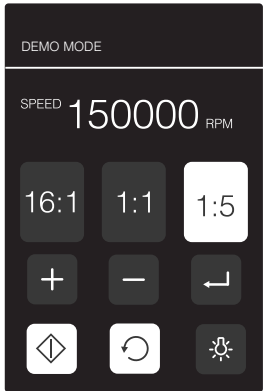

Figure 10
Enter the setting interface, and click the restore factory settings touch button to enter the restore factory settings interface for confirmation. In confirming interface, click OK, the interface shown in Figure 10 will pop up. Select "OK" to restore to original factory settings parameters or select "Cancel" to quit restoring factory settings.
5.7.3 In setting interface, touch key “10” Restore Factory Setting key, click OK to enter interface shown in Figure 10, and decide whether to restore the factory setting by clicking “OK” or “Cancel” key.